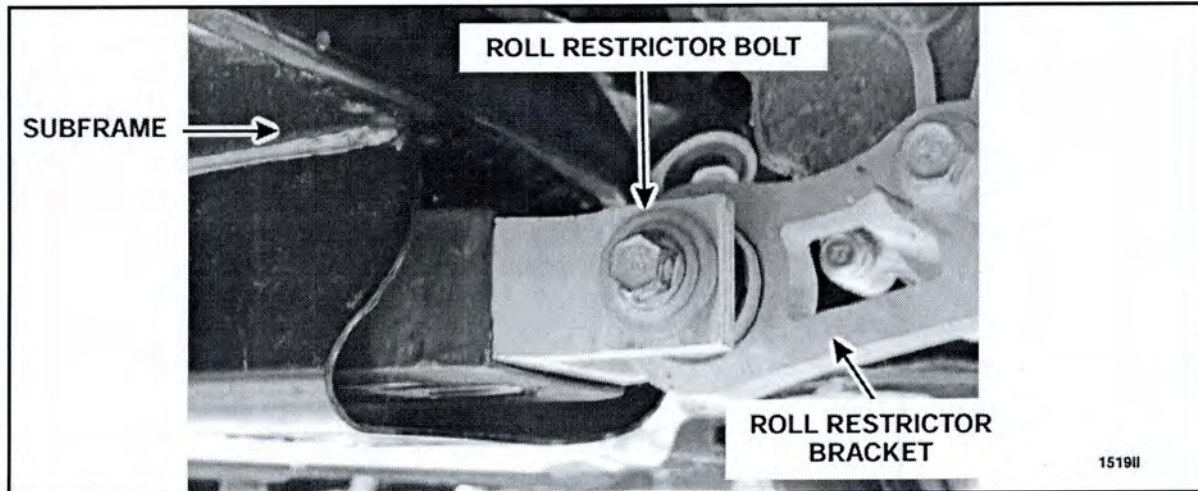

FIGURE 6
2. Remove the right hand (RH) roll restrictor bolt. See Figure 6.
2. *Install the RH roll restrictor bolt. See Figure 6.*